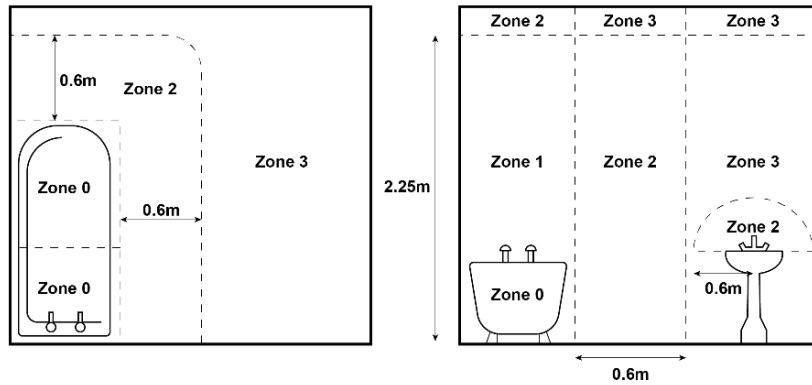

Figure 3
- Do not install RIO / RIO WIFI into a towel rail fitted in ZONE 0 or ZONE 1 (Zone definition IEC 60364-7-701 in Figure 3).